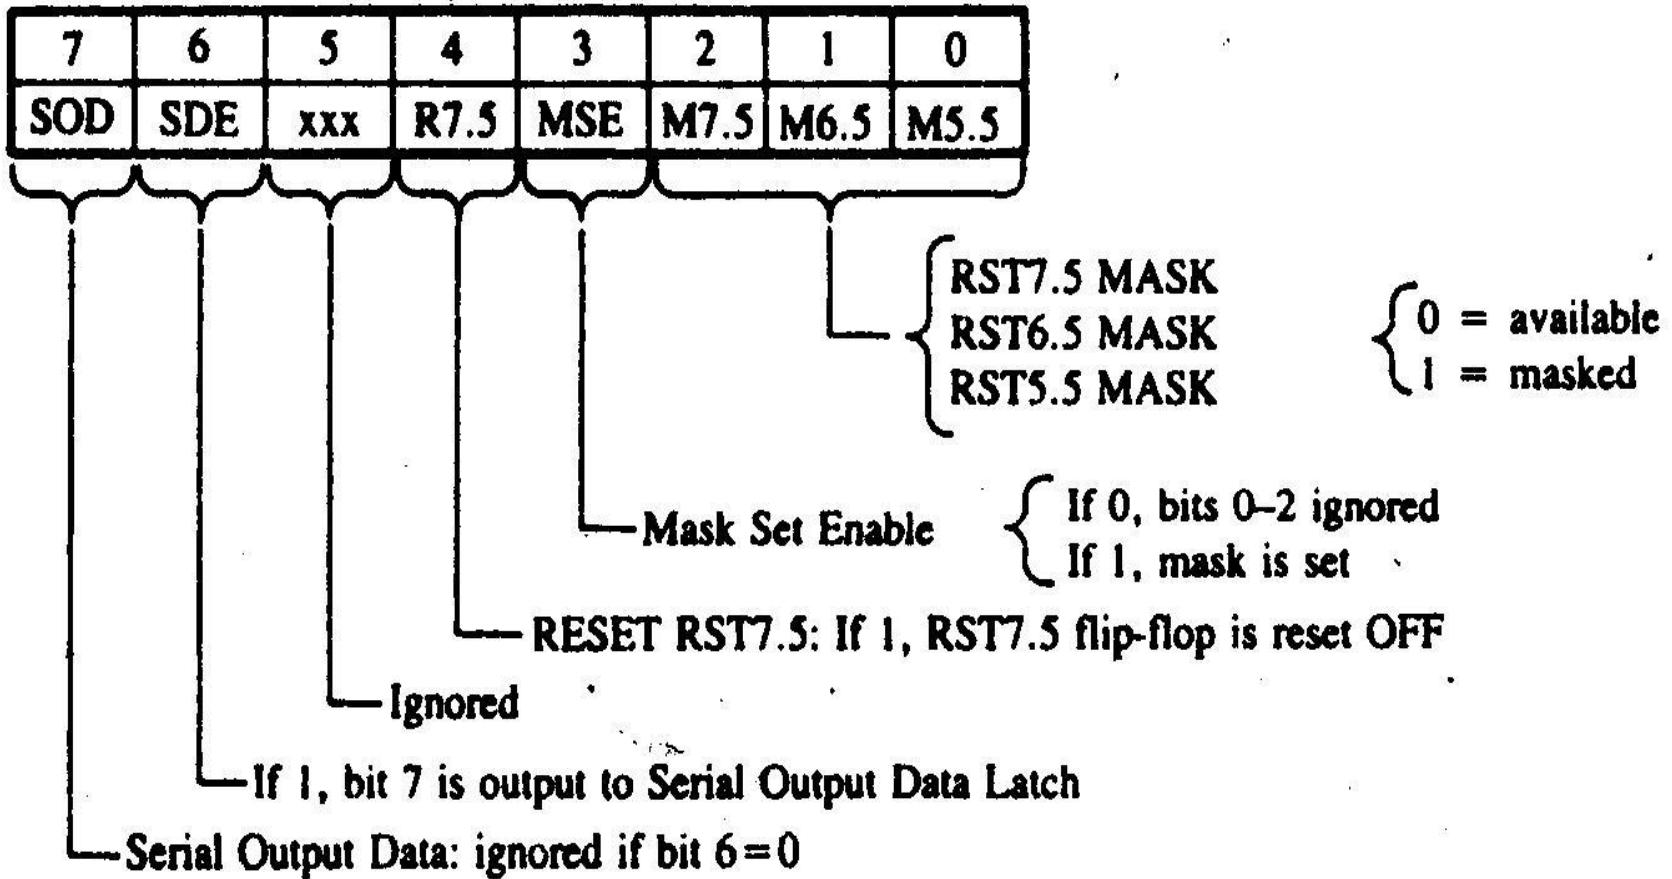

FIGURE 12.6
Set Interrupt Mask. This is a 1-byte instruction and can be used for three different functions (Figure 12.6).
- The second function is to reset RST 7.5 flip-flop (Figure 12.6). Bit D₄ is additional control for RST 7.5. If D₄=1, RST 7.5 is reset. This is used to override (or ignore) RST 7.5 without servicing it.